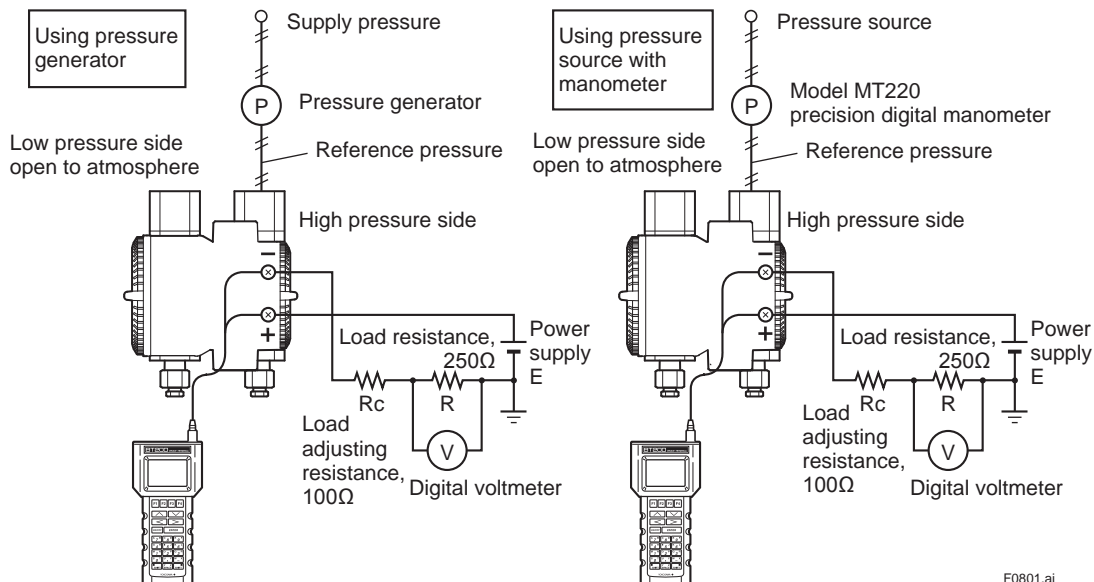

Figure 8.1 Instrument Connections (EJX110A)
- 1) Connect the transmitter and apparatus as shown in Figure 8.1 and warm it up for at least five minutes.
- 1) Connect the instruments as shown in figure 8.1 and warm up the instruments for at least five minutes (ten minutes for EJX310A.)